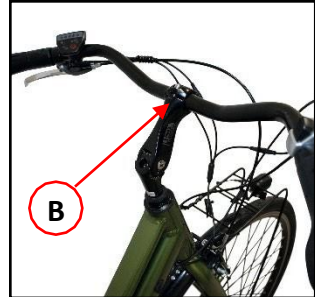

Figure 2 – Fixing screws and handlebar rotation
5. Unscrew the two screws on the handlebar connection and rotate the handlebar to the desired position. Once the handlebar has been adjusted, fix the screws (Ref. B in Figure 2). The tightening torques are near the screws.